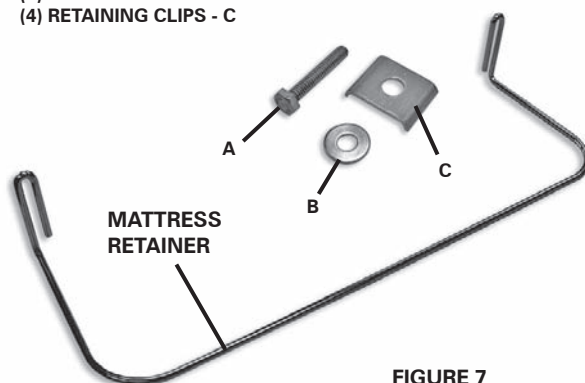

FIGURE 7
- a. Locate (1) mattress retainer and (1) mattress retainer hardware kit (**FIGURE 7**).